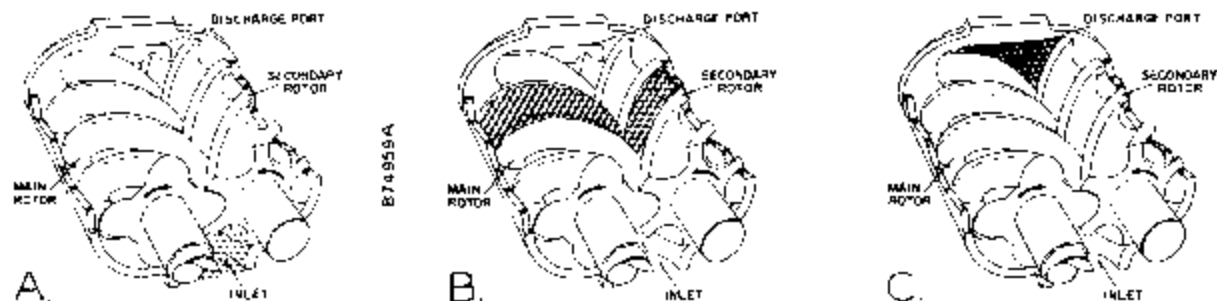

Figure 1-1 – TYPICAL COMPRESSION CYCLE
COMPRESSION PRINCIPLE (Figure 1-1) - Compression is accomplished by the main and secondary rotors synchronously meshing in a one-piece cylinder. The main rotor has four (4) helical lobes 60° apart. The secondary rotor has six (6) matching helical grooves 60° apart to allow meshing with main rotor lobes.
Figure 1-1 is an inverted view to show inlet and discharge ports. The compression cycle begins as rotors unmesh at the inlet port and air is drawn into the cavity between the main rotor lobes and secondary rotor grooves (A). When the rotors pass the inlet port cutoff, air is trapped in the interlobe cavity and flows axially with the meshing rotors (B). As meshing continues, more of the main rotor lobe enters the secondary rotor groove, normal volume is reduced and pressure increases.